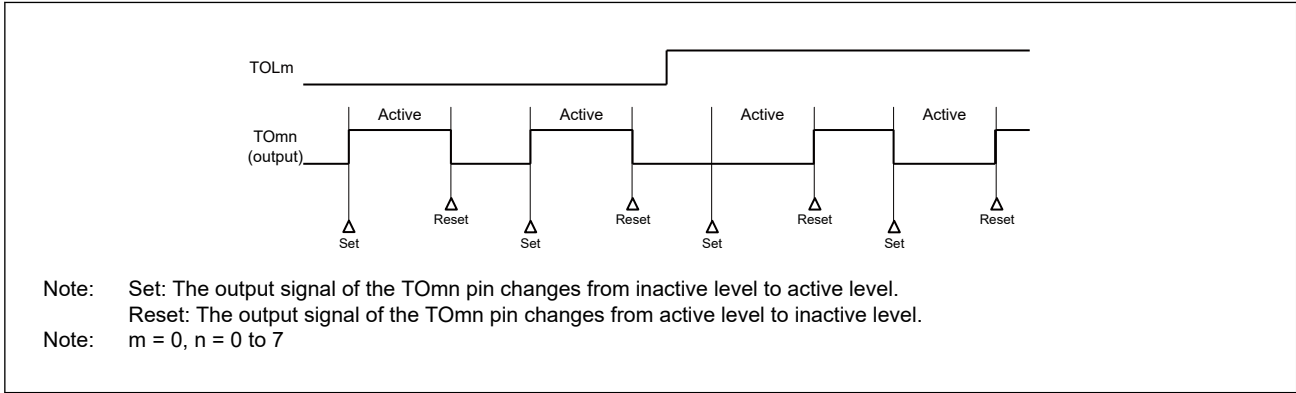

Figure 16.31 Operation when the relevant bit of the TOL0 register is changed during timer operation
(3) Operation of TO0n pin in slave channel output mode (TOM0.TOM[n] = 1)
- When the TOL0 register setting has been changed during timer operation, the setting becomes valid at the generation timing of the TO0n pin change condition. Rewriting the TOL0 register does not change the output level of the TO0n pin. The operation when TOM0.TOM[n] is set to 1 and the value of the TOL0 register is changed while the timer is operating (TE0.TE[n] = 1) is shown Figure 16.31.